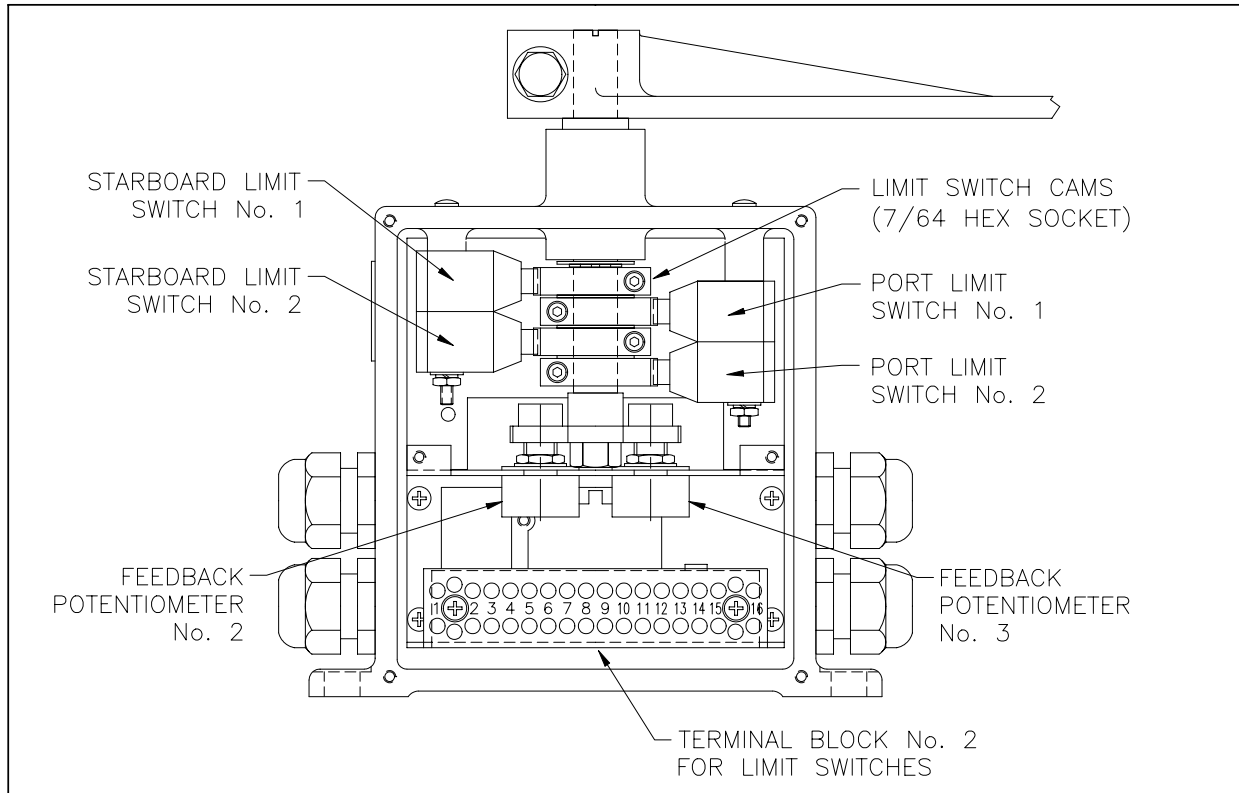

Figure 5 – RFU 2000 Internal Configuration – Limit Switch Side
- a) Refer to Figure 5 and loosen all of the limit switch cam set screws.